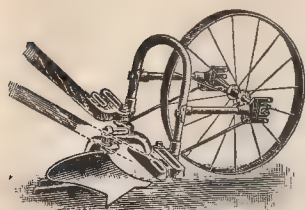

**Fig. 169**
**Combined Disc and Fender Attachment. Fig. 169.** Price, . . . Since the introduction of this attachment it has increased in sale very rapidly. A sample order usually brings a larger order and an expression of appreciation. In cases where the small plants have become fastened in the crust that has formed around them it becomes difficult to hoe closely without displacing them, and it is the avoidance of this that makes this attachment valuable. As will be seen by the cut the discs are used in connection with the side hoes and are set to cut the surface a little in advance of same.